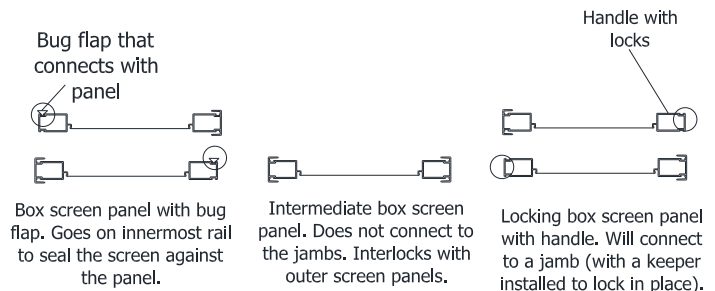

Figure 24
33. Box screen panels have different components based on configuration. Identify correct screen panel placement using Figure 24.